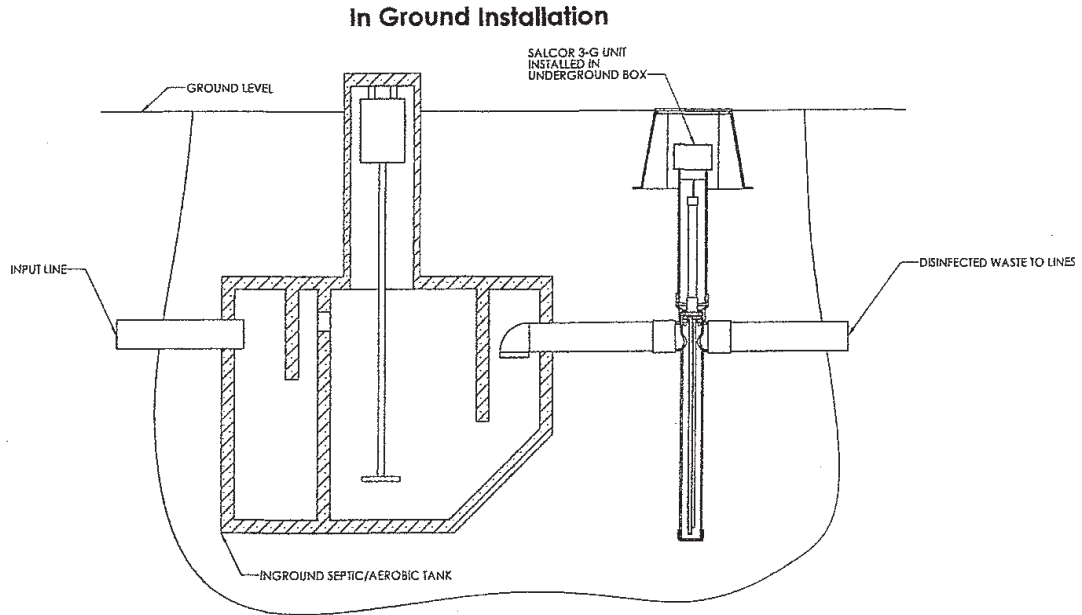

Figure 2
1. In the Ground Installation: Couple the 4-inch inlet pipe to the exit pipe of the pretreatment unit, and couple the 4-inch outlet pipe to the drain field pipe. See ***Figure 2*** (page 8).